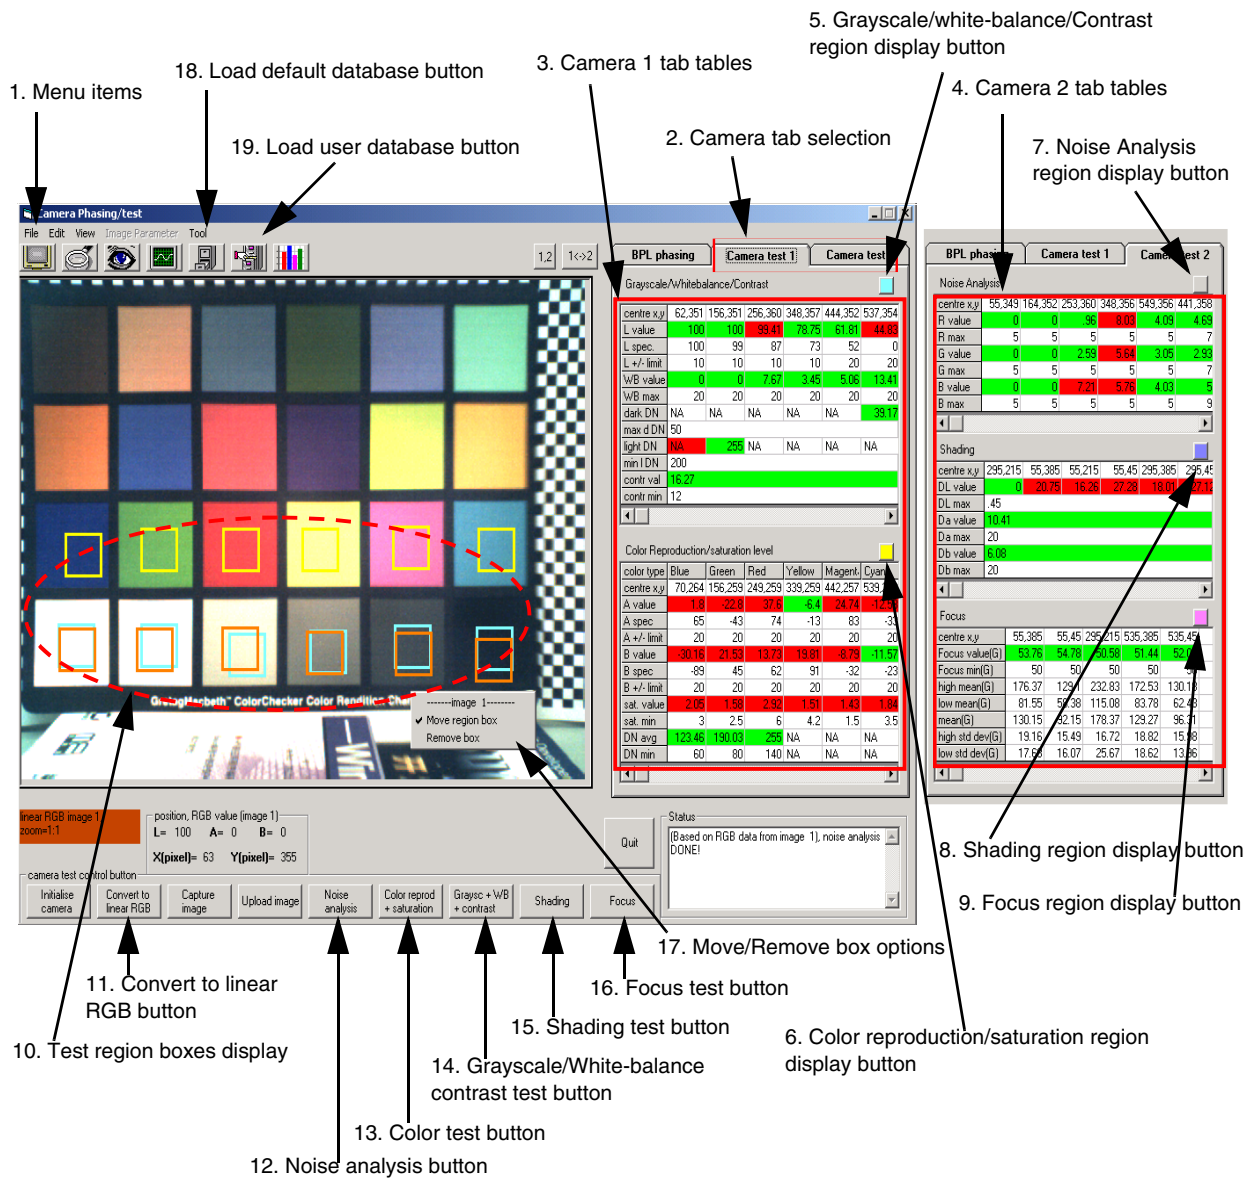
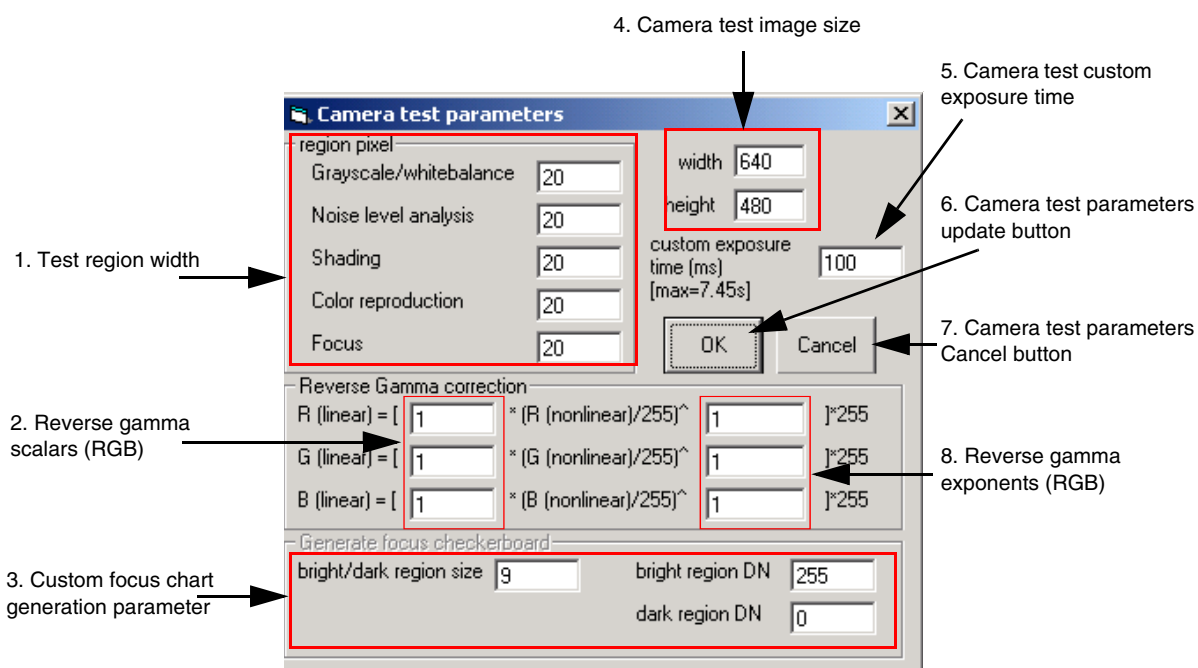

Figure 25. Manual Camera Test Window
Figure 26. Camera Test Parameter Window Display
Figure 25 on page 93 shows the main window of the manual camera test (in single-image display mode). Note that both Camera 1 and 2 tabs are displayed. Some of the buttons (e.g., **Capture** and **Upload**) and menu functions are the same as the camera phasing case in Figure 25 on page 93. Only the camera test-specific buttons and menu functions are shown, and their details are described in Table 57 on page 94. The **Camera Test Parameter** window display is shown in Figure 26 on page 95 and its details are described in Table 58 on page 96.
Figure 25 shows a single-image display of a *Macbeth* chart with both camera 1 and 2 tabs.
File -> Save camera test parameter to user DB	Camera test parameters based on Figure 26 on page 95, and test tables in (3) and (4) are saved to user database.
9. Display test region boxes for grayscale/white-balance/contrast, color, and noise tests ((5)-(7) in Figure 25 on page 93). If necessary, move test region boxes to align with test chart (using move option in (17) in Figure 25).
11. Repeat Steps 4 to 7 using a 18% gray chart (display shading test region box using (8) in Figure 25), move test region boxes if necessary, then perform shading test.
12. Repeat Steps 4 to 7 using a custom focus chart (display focus region box using (9) in Figure 25), move test region boxes if necessary, then perform focus test.